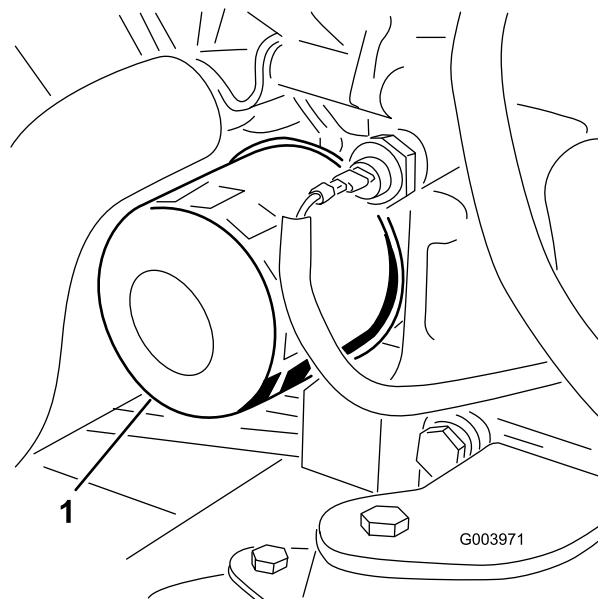

Figure 37
3. Remove the oil filter (Figure 37).